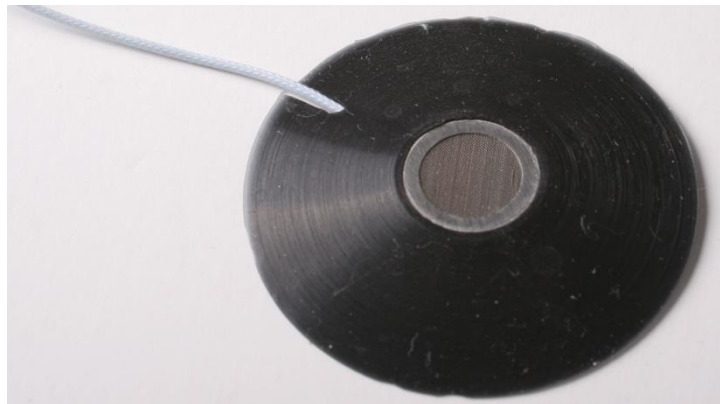

Figure 7: Fairing installed over Surface Microphone
- 3) When the Surface Microphone will be mounted in a location where air movement is expected, attach the Fairing: align the Fairing's slot with the Microphone's cable and press the Fairing down over the microphone and onto the exposed adhesive surface of the double-sided adhesive pad, smoothing out the Fairing as necessary. See Figure 7.